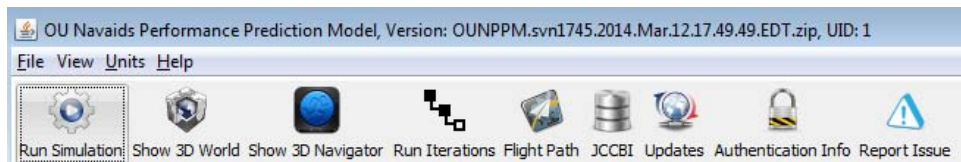

Figure 100: Upon restarting OUNPPM, the new Version is displayed.
5. After restarting OUNPPM, notice the Version has changed in the Title Bar of the OUNPPM Window as shown in Fig.100.